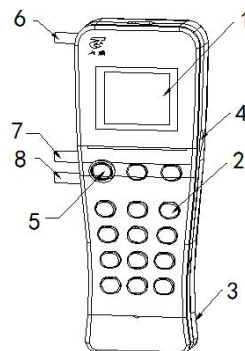

Fig. 1
1. Appearance of the programmer is shown in Fig. 1.